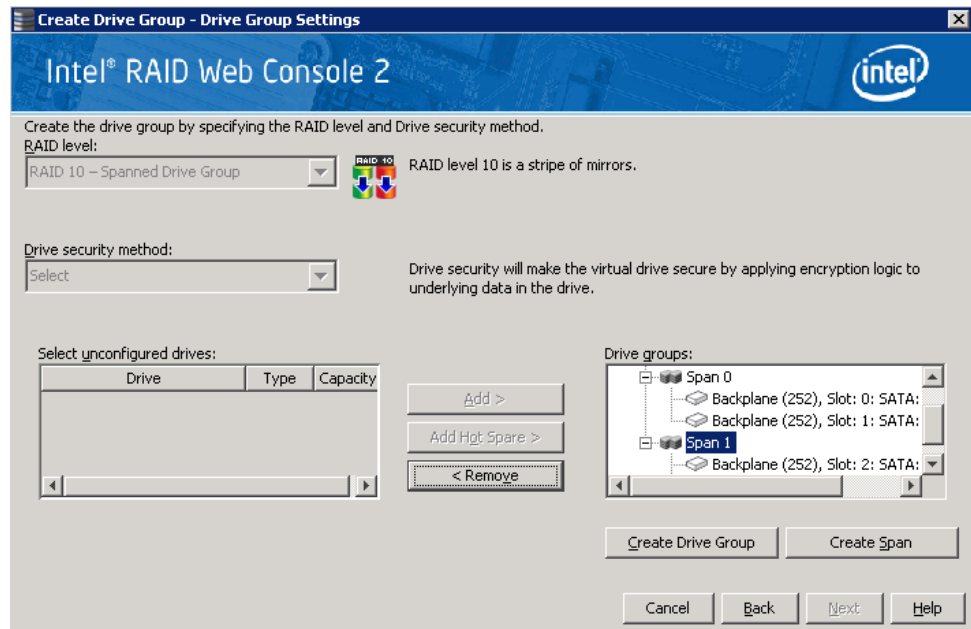

Figure 60. Span 0 and Span 1 of Drive Group 0
- e. The selected drives appear under **Span 1** below **Drive Group 0**, as shown in Figure 60